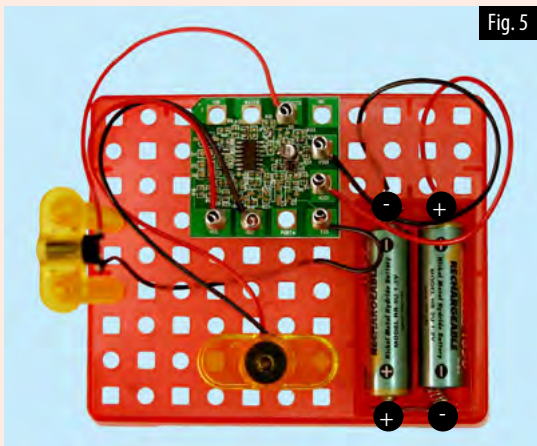

Fig. 5
4. Now, the Motion Sensor is ready. Insert two AA size batteries to the compartment according to the polarity as shown in figure 5.